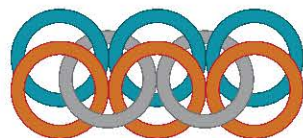

FIG. 1
2. Make a 2-1-2-1-2 chain following the instructions on page 26 (**FIG. 1**).